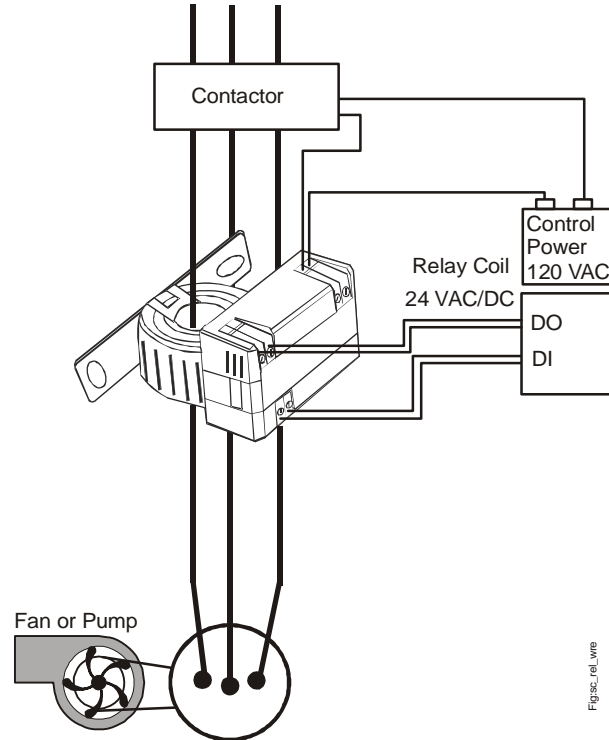

Figure 2: Model CSD-SA1E1-1
3. Wire the CSD/Command Relay as shown in Figure 2.
4. Reconnect the power to the conductor cable (see Figure 2).